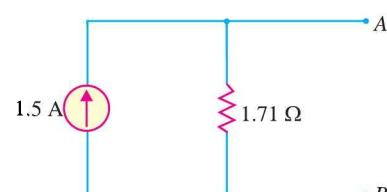

Fig. 1.51
5. Fig. 1.51 shows Norton's equivalent circuit of a network behind terminals A and B. Convert it into Thevenin's equivalent circuit. [2.56 V in series with 1.71 Ω]